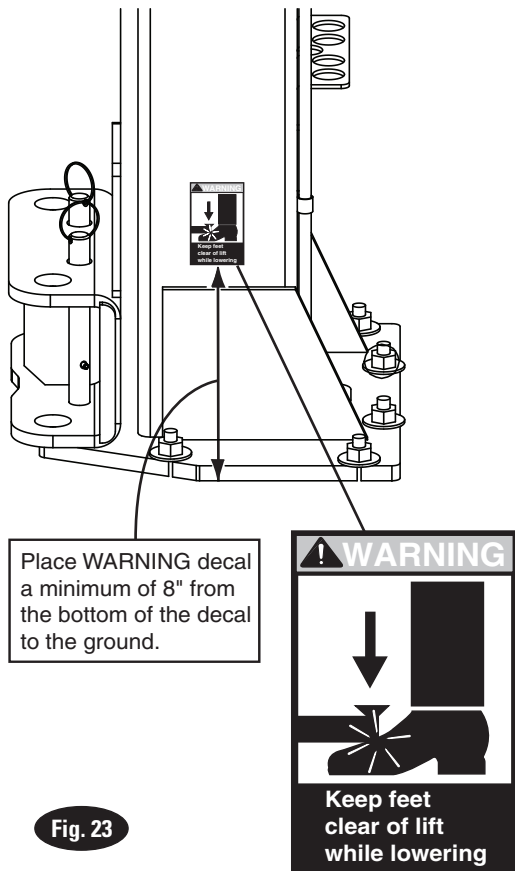

Fig. 23
- 24. **Pinch Point Decal Location:** Install enclosed pinch point decals. Place (1) decal on each column, Fig. 23.